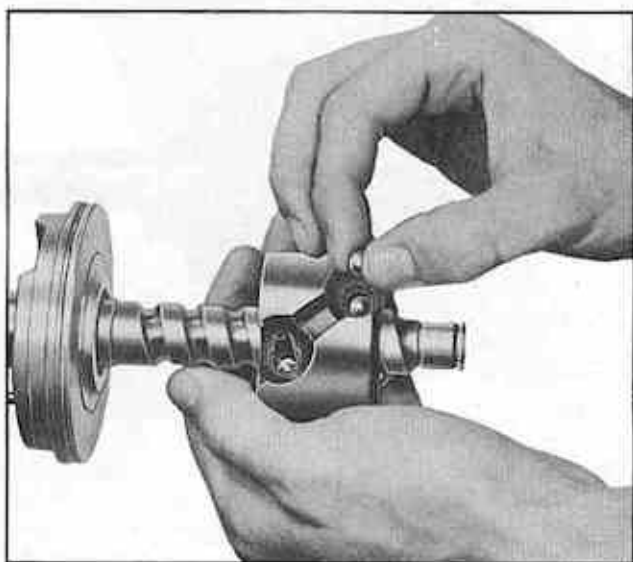

Fig. 72 Loading Balls Into Ball Nut
3. Align ball return guides with worm groove. Load 17 balls into ball nut. Drop balls into return guide hole farthest from adapter while slowly rotating worm counterclockwise to feed balls through circuit (Fig. 72).